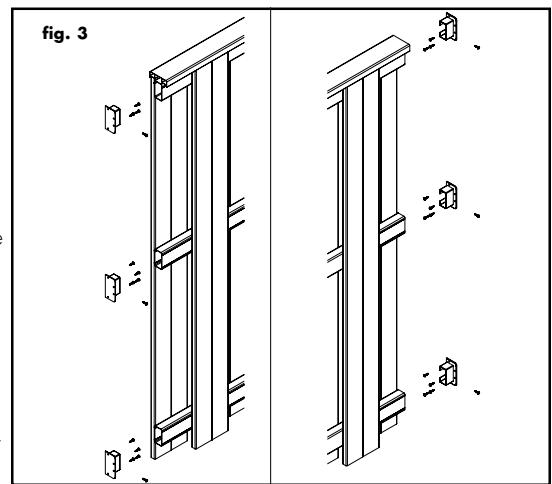

fig. 3
- Prepare the pre-assembled fence panels by sliding the mounting brackets into the rails with the open space facing out toward the picket. See fig. 3. Slide the bracket fully in the rail. Later, you will be able to slide the bracket outward to get a perfect fit if your post opening is slightly wider than the suggested dimension of 67".